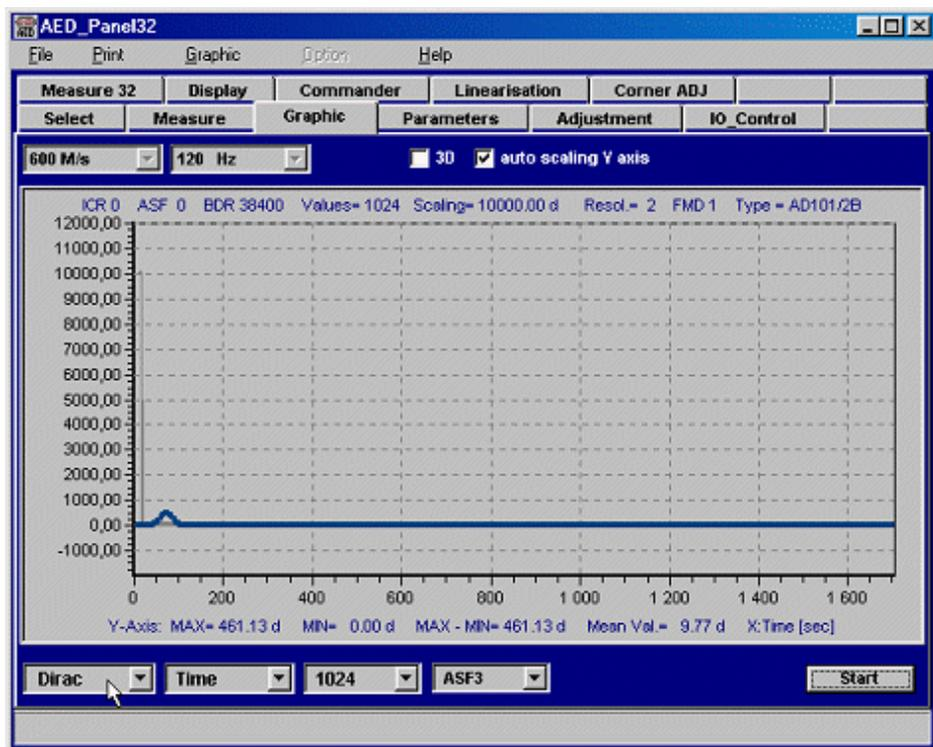

Fig. 5.9 Dirac delta function and impulse response of the 'post' filter (ASF3, FMD1)
- Now select the desired 'post' filter, and you will see a display of the input signal (gray) and the filtered signal (blue/red = impulse response of filter) in Fig. 5.9.